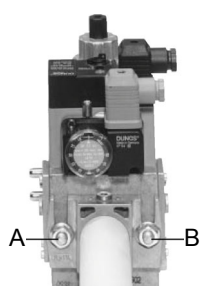
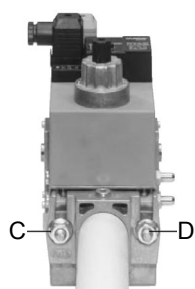
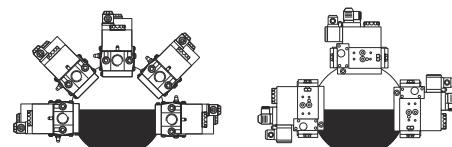

Fig. 3
Fig. 4
Fig. 6
3. tighten screws A, B, C and D (Fig. 3 - Fig. 4), according to the mounting positions (Fig. 6);
1-b) in case of flanged joints: place a gasket (no. 1A..1E - Fig. 4) between the elements;
ATTENTION: once the gas train is mounted according to the diagram on Fig. 4, the gas proving test must be performed, according to the procedure set by the laws in force.